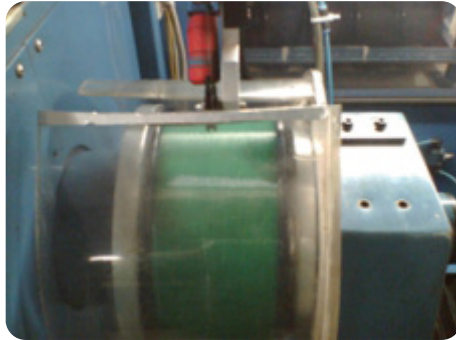

Figure 7: Anti-whipping guard installed in proof-test machine
1. Installation of anti-whipping guards in areas where breaks and flailing ends may occur e.g. on prooftesting machines, rewinding and coloring machines (Figure 7).